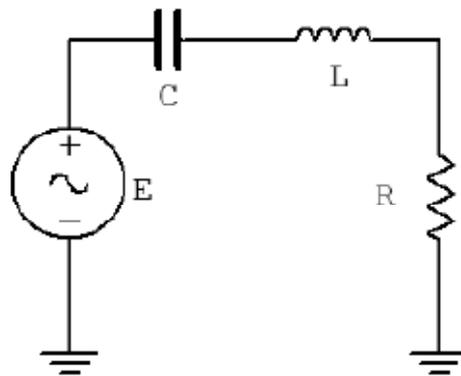

Figure 6.1
1. Using Figure 6.1 with $R=470\text{ohm}$, $L= 10 \text{ mH}$, and $C=10 \text{ nF}$, determine the theoretical resonance frequency and Q , and record the results in Table 6.1. Based on these values determine the upper and lower frequencies defining the bandwidth, f_1 and f_2 , and record them in Table 6.1.
2. Build the circuit of Figure 6.1 using $R=470\text{ohm}$, $L=10 \text{ mH}$ and $C=10 \text{ nF}$. Place a probe across the resistor. Set the output of the generator to a 1 V p-p sine wave. Set the frequency to the theoretical resonance frequency of Table 6.1. Make sure that the *Bandwidth Limit* of the oscilloscope is engaged for both channels. This will reduce the signal noise and make for more accurate readings.